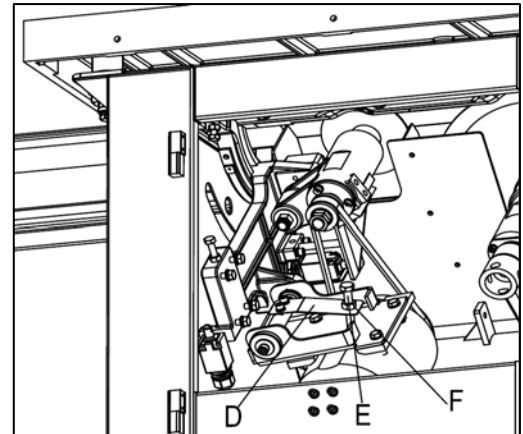

Fig. 60
2. Scoring motor belt. (Fig.60)